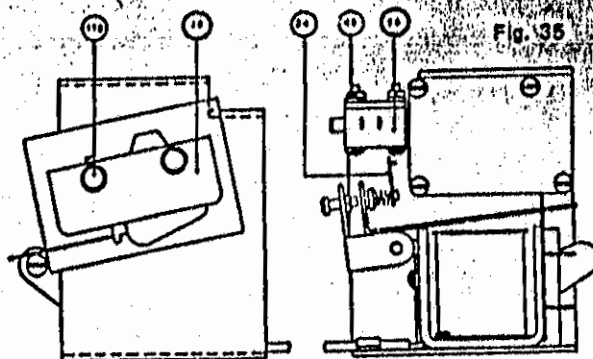

Fig. 35
- L. Undervoltage and Shunt Trip Limitswitches (Fig. 35).
1. Limitswitch for trip indication. To remove the limitswitch (28) for indicating tripping by undervoltage or shunt tripping, break connections and remove screws (178). When replacing limitswitch, follow adjustment instructions outlined in Chapter IV, Limitswitch On Voltage Release.